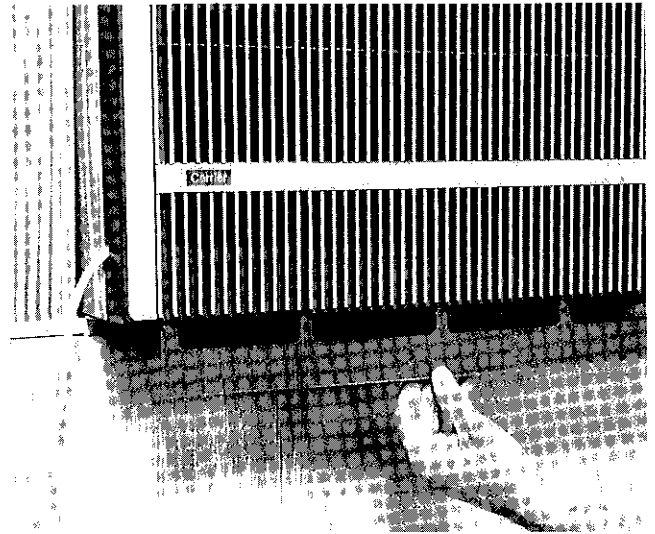

Fig. 3 — Removing Filter
- 2 **Filter** — Filter can be removed without having to remove grille insert. Grasp bottom edge of filter (located behind grille insert) and gently pull filter down and slightly toward you. See Fig 3. Filter may be vacuumed, or washed in warm water. Shake filter to remove excess water, dry thoroughly and replace by sliding filter upward behind front grille until filter snaps in place.